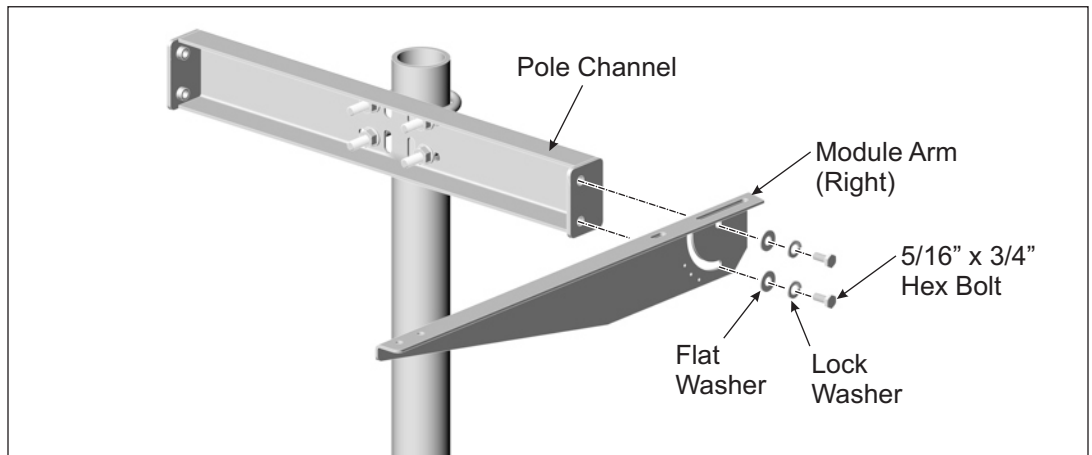

Figure 2-1: Attaching Module Arm to Pole Channel
The Module Arms are attached to the ends of the Pole Channel using 5/16" x 3/4" hex bolts and hardware. Module Arms are left and right hand configurations, keep this in mind during the installation. Figure 2-1 shows the installation of a right-hand Module Arm, installing a left-hand installation mirrors that shown.
- A. Orient and align the Module Arm as shown in Figure 2-1. Secure the Module Arm by inserting two 5/16" x 3/4" hex bolts with lock washers and flat washers, through the Module Arm and into the threaded inserts of the Pole Channel. To facilitate the module installation, position the Module Arm at 0-degrees as shown in Figure 2-1. **Torque to 25-30 ft.-lbs.**